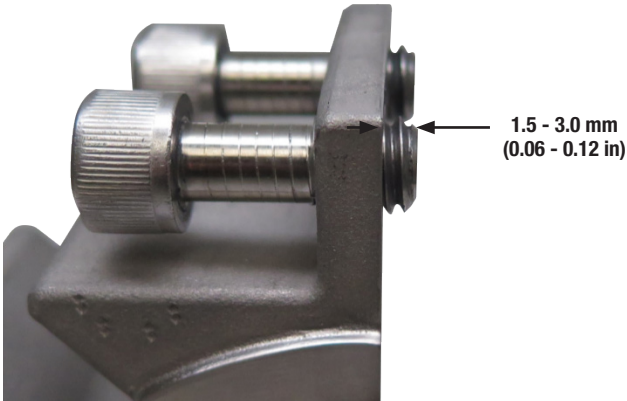

Figure 23
- 7.2 Thread the screws in from the outside surface of the thin gland flange until they protrude 1.5 to 3.0 mm (0.06 to 0.12 in) past the gland joint surface. See Figure 23.